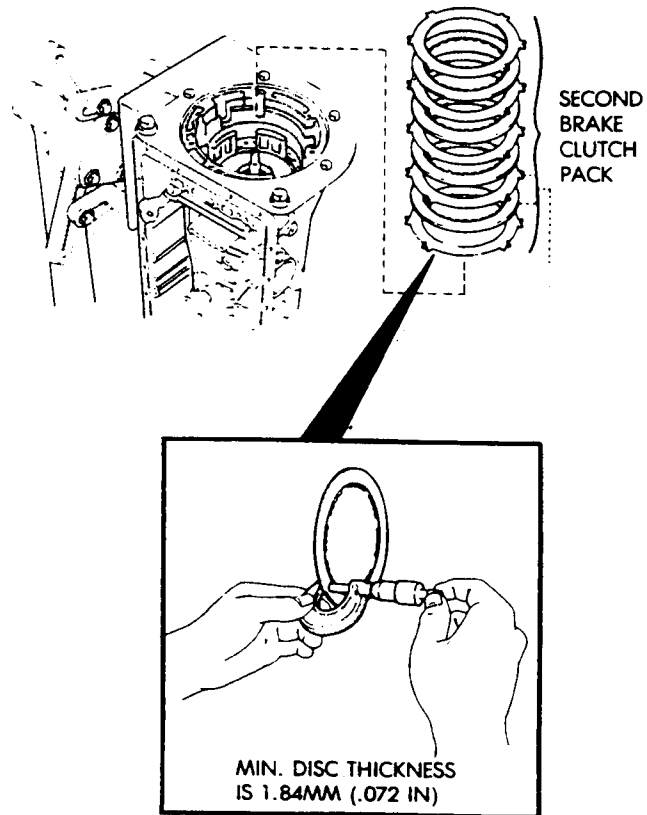

Fig. 41 Remove/Measure Second Brake Clutch Disc Thickness
(50) Remove second brake clutch pack (Fig. 41). Measure disc thickness with micrometer. Minimum thickness should be 1.84 mm (.0724 in). Replace discs if not within specifications.